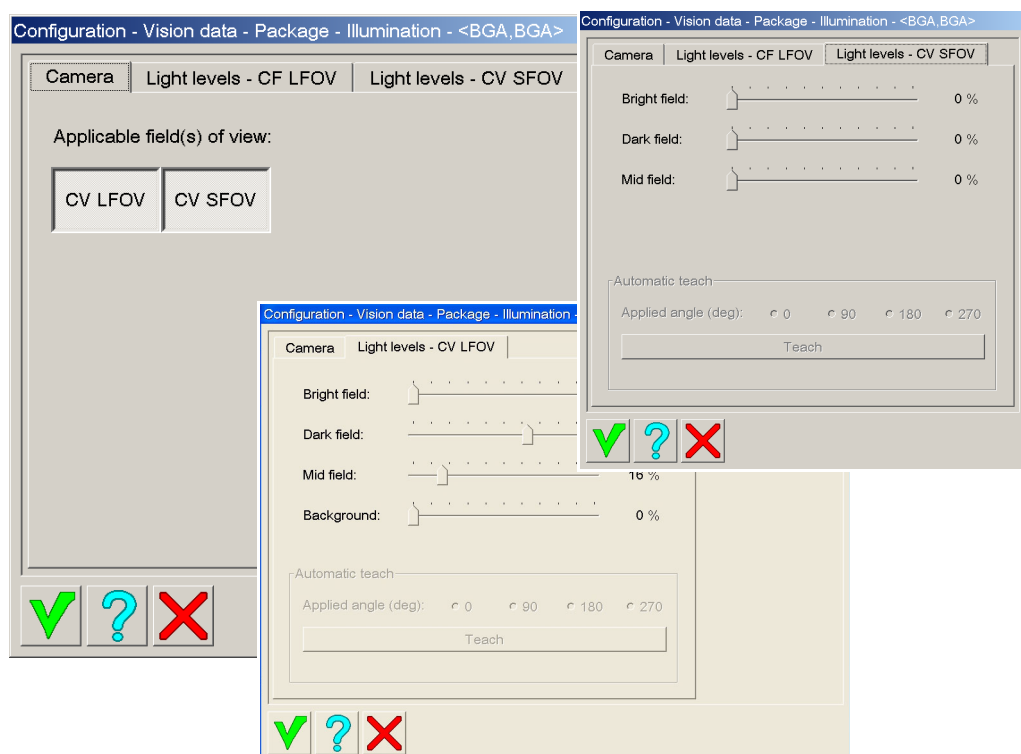

Figure 26 BGA, illumination
- Select 'Illumination', see Figure 26